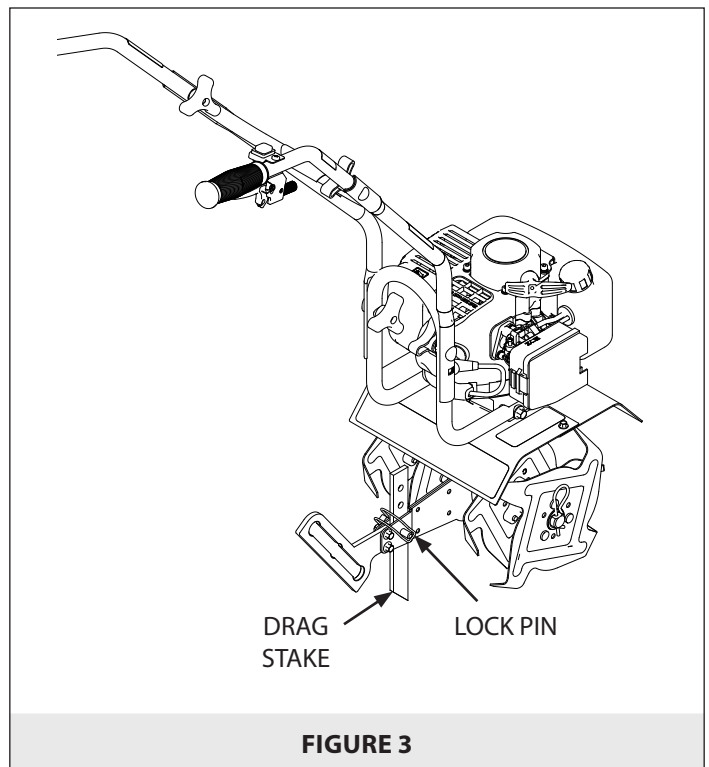

FIGURE 3
4. The drag stake is shipped with point facing upwards. Before using, remove lock pin and turn the drag stake around so the point is directed in the downward position facing towards the tines. Re-insert lock pin. **SEE FIGURE 3.**